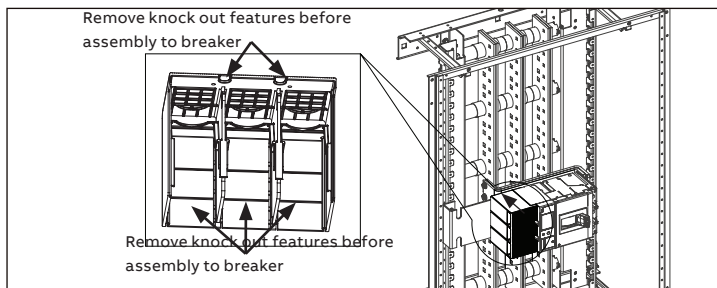

Figure 8. Installation of terminal cover
Remove the plastic wall (knock out) in terminal cover (6) and install the XT5 terminal cover on load side (slide down in as shown in figure 8).